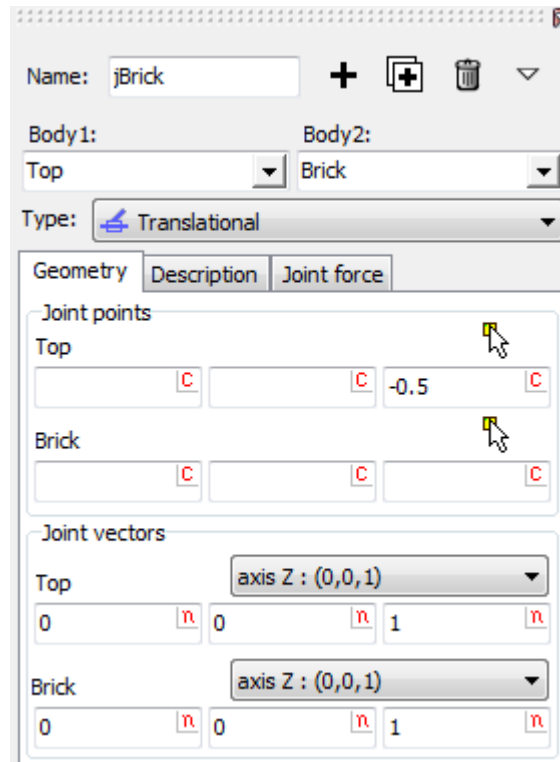

Figure 2.11. Joint for the **Brick** parameters
4. Select the **Top** as the first body instead **Base0**, see in Figure 2.11.
5. Set the rest parameters of the joint as it is shown in Figure 2.11.